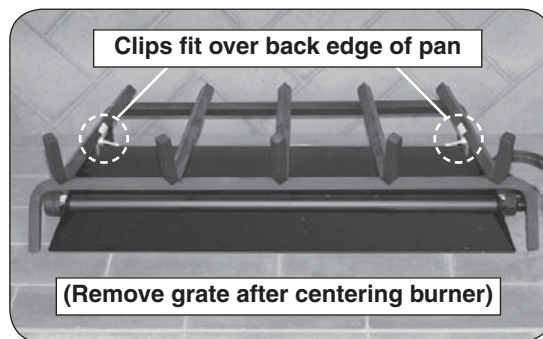

Fig. 12-2 Position grate
2. Position the grate over the burner pan (in fireplace) so the stabilizer clips fit over the back edge of the pan to lock it in position. Ensure the assembly is centered from left to right. See Fig. 12-2 and Fig. 12-3.